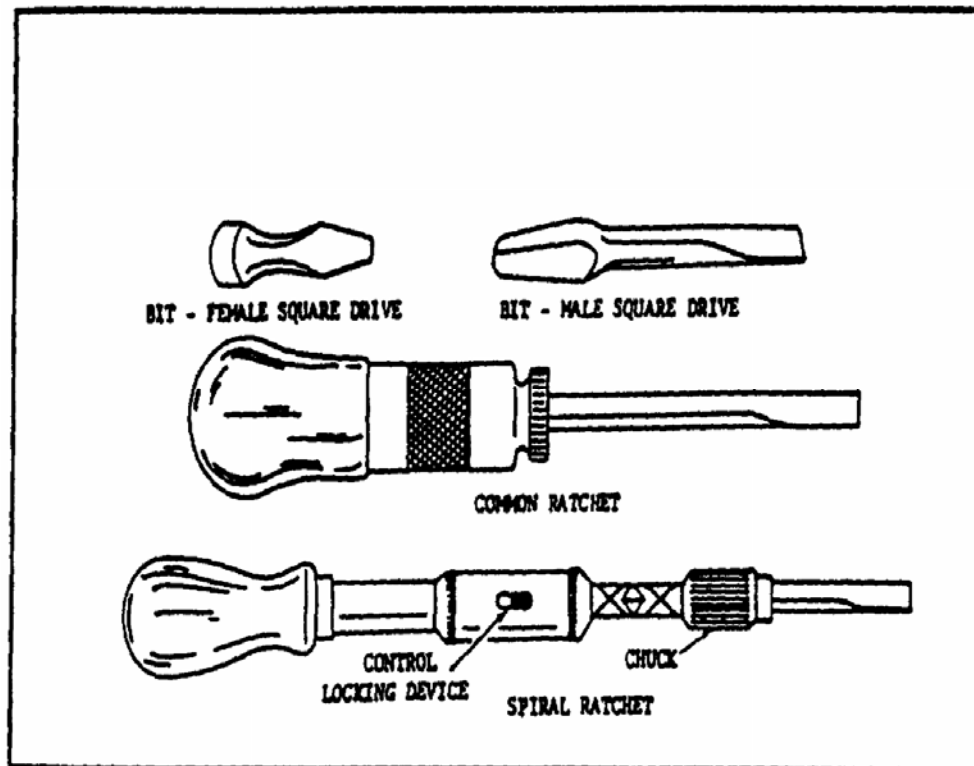

FIGURE 10. RATCHET SCREWDRIVERS AND SCREWDRIVER BITS.
(7) *Ratchet Screwdrivers*. Ratchet screwdrivers (figure 10) are used to drive or remove small screws rapidly. The spiral ratchet screwdriver automatically drives or removes screws. It can be adjusted to turn left, right, or to be locked to act as a common
(8) *Screwdriver Bits*. A screwdriver bit (figure 10) is a screwdriver blade with a square, hexagonal (six-sided), or notched shank so that it will fit in the chuck of a breast drill or ratchet bit brace, or on a square drive tool, such as a socket wrench handle. Other screwdriver bits are made with a spiral ratchet screwdriver shank for use with spiral ratchets.